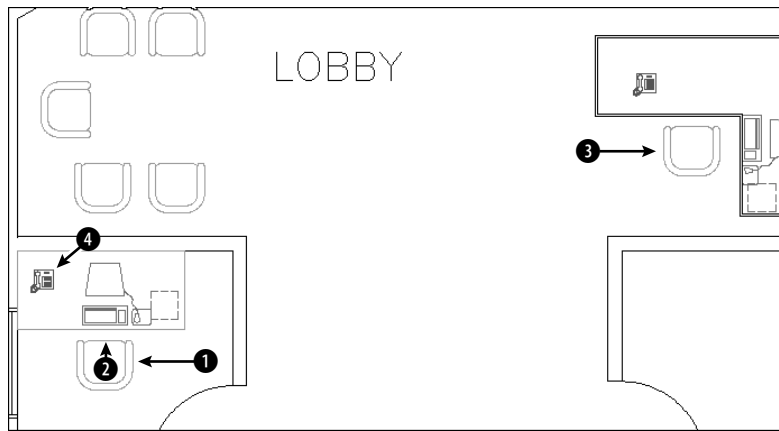

Figure 18-24: An office building plan layout.
2. Save the file as `ab18-09.dwg` in your `AutoCAD Bible` folder. This is a portion of an office building plan layout, shown in Figure 18-24.
- **If you have AutoCAD LT:** At the `Select block reference:` prompt, pick the chair at ❶ in Figure 18-24. In the `Edit Attributes` dialog box, change the date purchased to `4/97`.
6. Choose Explode from the Modify toolbar and select the chair at ① in Figure 18-24. Press Enter to end selection. The attributes reappear but without their values. Choose Draw ▾ Block ▾ Define Attributes. Create an invisible attribute with a tag and prompt of Color and a value of Dusty Blue. Click OK and pick an insertion point underneath the other two attributes of the armchair. (You'll need to pan down a little. Exact placement is not important.) Choose OK.
8. Choose Insert Block. In the Insert dialog box, choose `armchair` from the Name drop-down list. With Specify On-Screen checked only for Insertion Point, click OK. Insert the chair at ②. In the Enter Attributes dialog box, click OK to accept the values or press Enter to accept the values on the command line.
9. **AutoCAD only:** To verify that your drawing has redefined the block elsewhere, choose Modify ▾ Object ▾ Attribute ▾ Single. Select the block at ③. Notice that the Color tag has been added with a value of Dusty Blue. Click OK to accept the values. (In AutoCAD LT, the new attribute only appears in the block that you redefined and new blocks that you insert.)
10. Use Zoom Window to zoom in closely to the telephone at 4 in Figure 18-24. The telephone has a visible attribute of the phone number. The number is so small that it cannot usually be seen and so does not interfere with the drawing.